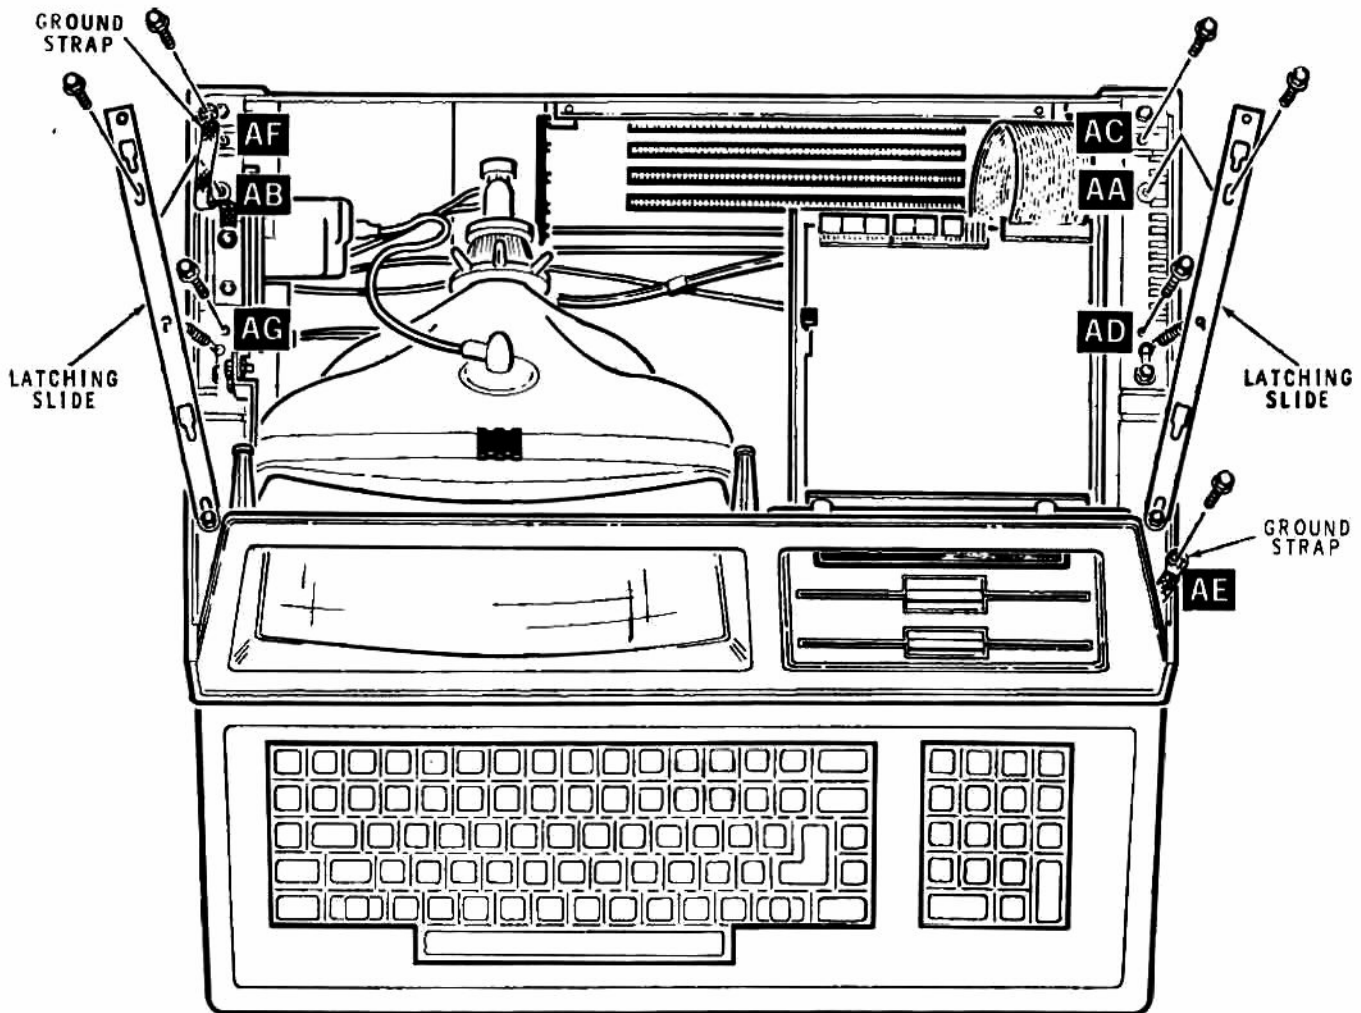

Figure 2.2. Disconnecting Slides and Straps
- Refer to Figure 2.2 and remove and retain the back screws that hold each latching slide at positions AA and AB.